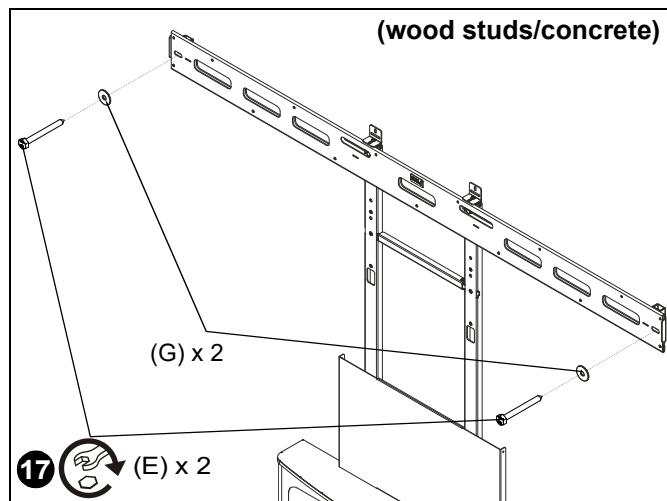

Figure 9
17. (Wood stud/concrete only) Use two 1/4-20 x 2 1/2" hex head cap screws (E) and two 1/4" washers (G) to secure cross bracket (A) and wall brackets (C) to wall. (See Figure 9)